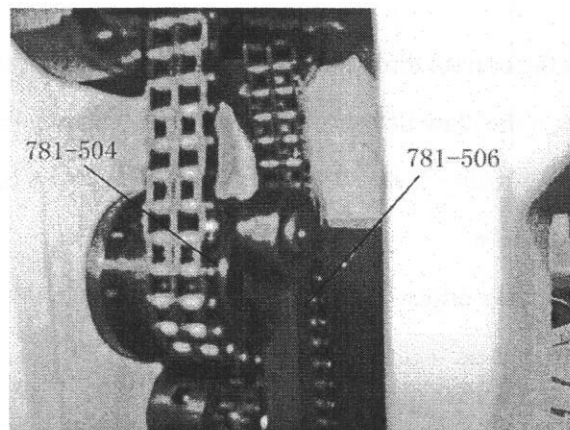

Fig.12
4.3 Adjustment setting of shuttle's swinging (Fig.12)